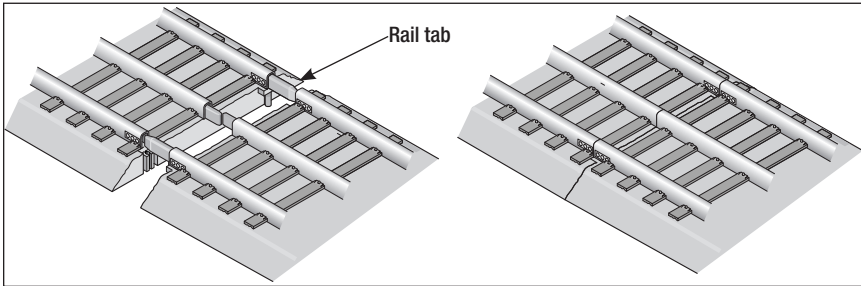

Figure 1. Joining the track sections
With interlocking roadbed and large rail tabs, each FasTrack track section connects securely. Refer to Figures 1 and 2 as you connect the Operating Track section.
3. Press the sections together until the interlocking roadbed snaps into place. Refer to Figure 1.